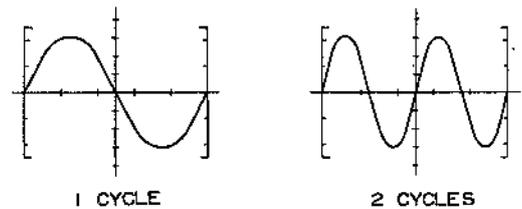

Fig. 11
5. If the CRT screen shows a waveform for one cycle, the oscillating frequency of the SD-1000 is 1 kHz. Likewise, a waveform for two cycles or four cycles represents oscillating frequency of 2 kHz or 4 kHz, respectively. (Fig. 11)